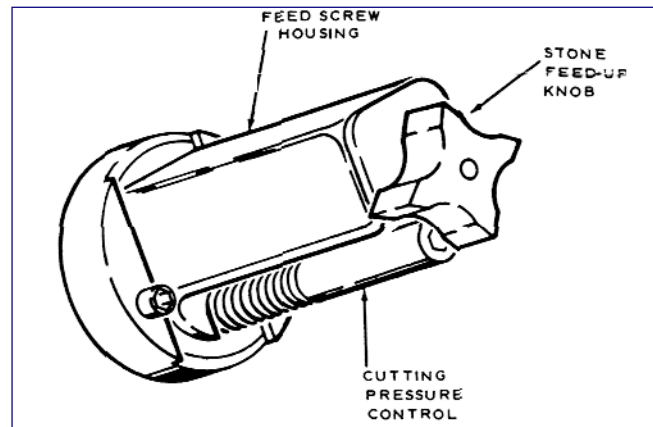

FIGURE 4, Stone Feed-Up Knob
**NOTE:** If Wedge sticks out too far, retract it by turning Stone Feed-Up Knob counterclockwise (see Figure 4).
5. To increase pressure, turn Cutting Pressure Control clockwise (refer to Figure 4). Too much pressure results in excessive stone wear. Too little pressure will allow stone to glaze and cease cutting, and cause mandrel to lose stability, resulting in loss of accuracy.